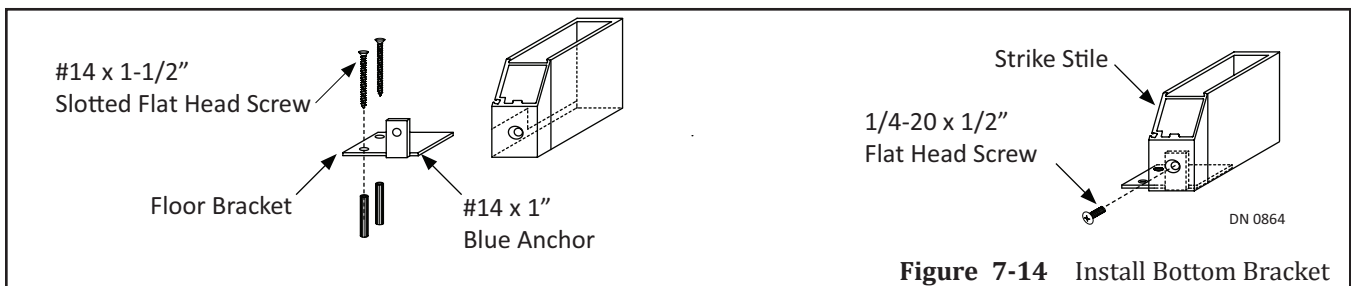

Figure 7-14 Install Bottom Bracket
1. Obtain (1) Floor Bracket, (2) #14 x 1-1/2 inch screws, and (2) #14 x 1 inch Blue Anchors provided by NABCO.
2. Insert the Floor Bracket into the Bottom Rail so the plate portion with (2) screw holes sticks out from underneath in direction of where the Slide door is to be installed. Please see Figure 7-14.
3. Secure the Floor Bracket to the Strike Stile with (1) 1/4-20 x 1/2 inch Phillips Head screw.
4. With a 5/16 inch Masonry Drill Bit drill (2) anchor holes into floor at least 1 inch deep.
5. Insert (2) #14 x 1 inch anchors into drilled holes.
6. Secure Floor Bracket to floor with (2) #14 x 1-1/2 inch Flat Head screws.
7. Secure the Cover Plate back onto the Strike Stile with (2) 1/4-20 x 3/4 inch Phillips Head Screws.